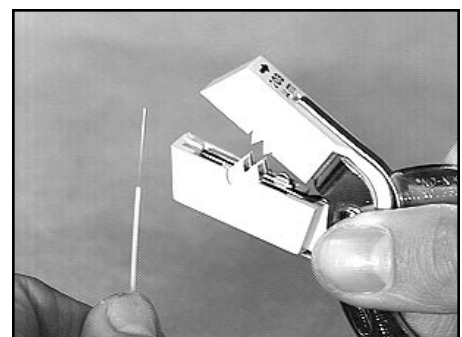

Fig. H4
4. REMOVE 3/4" (19 mm) OF BUFFER USING THE NO-NIK TOOL (Fig. H4)